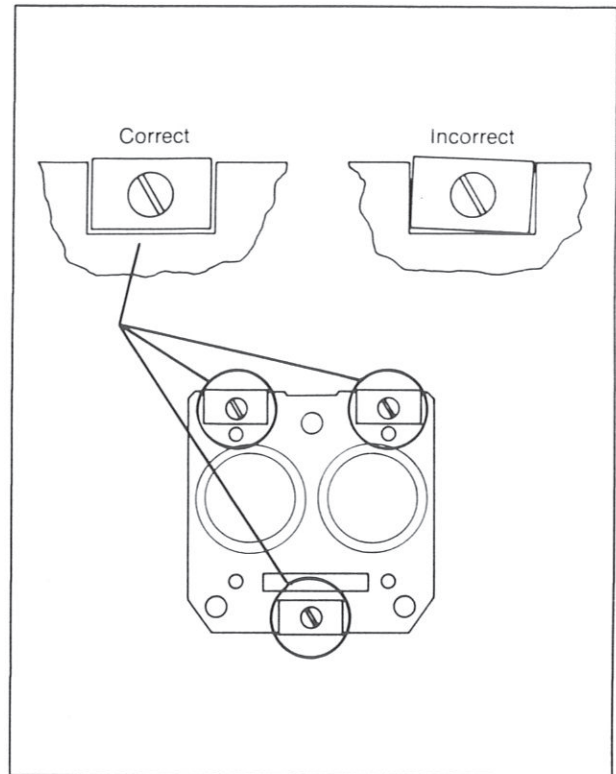

Figure 6
1. When the bands are fastened to the seal block, they should be in line with the seal block's edge (reference Figure 6). This allows the bands to "rock" square with the seal block by lying completely flat against it. If the bands are not in line with the edge of the seal block, they will tend to rock at an angle and will not lie flat on the molded seals.